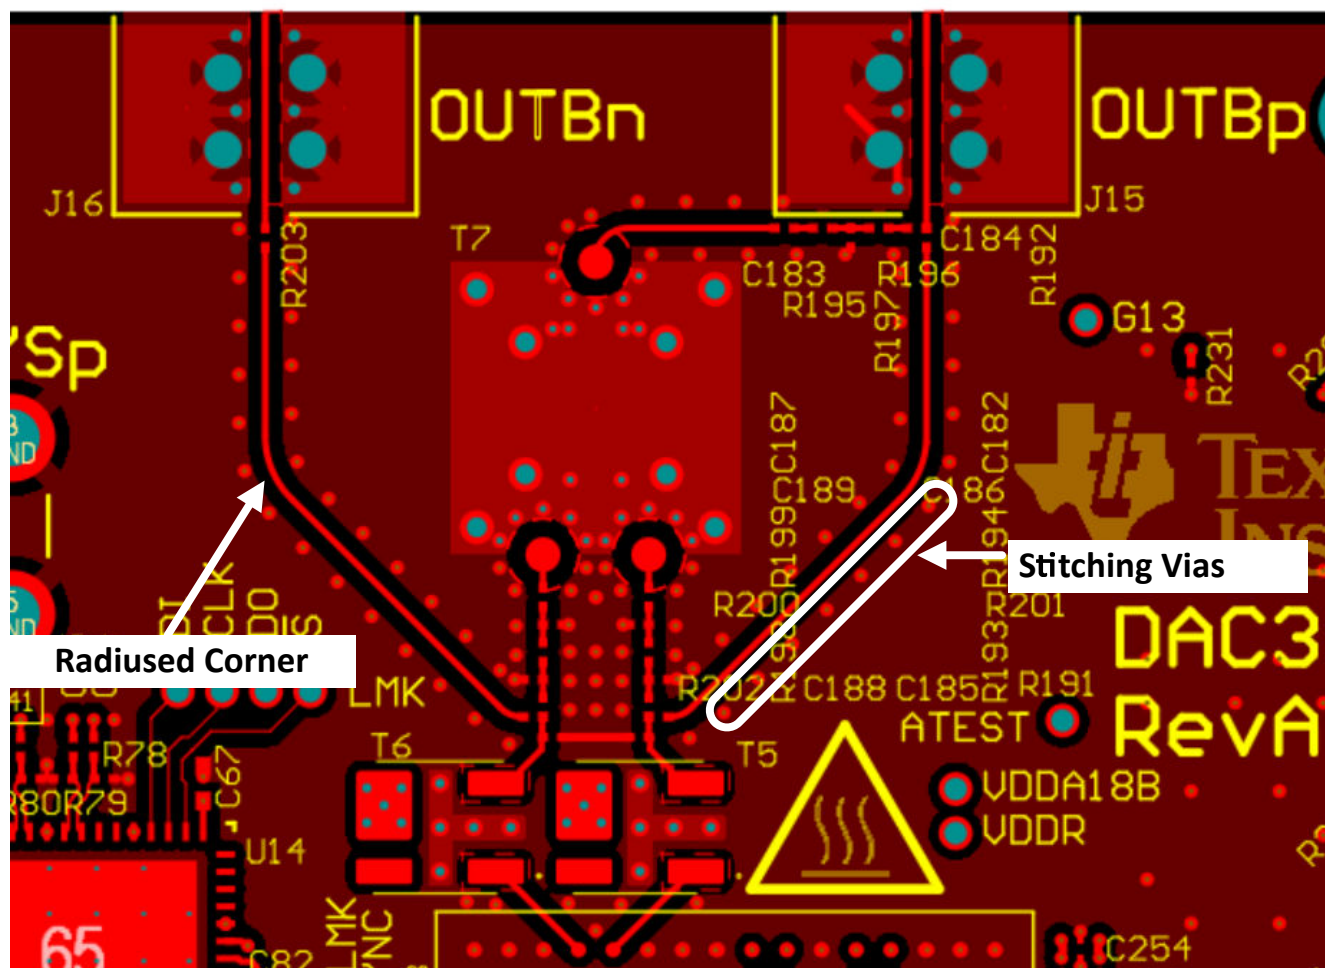

Figure 9-22. Radius Corner and Stitch Vias Next to High_Speed Signal Trace
4. Use smoothly radiused corners and avoid 45- or 90-degree bends to reduce impedance mismatches on all high-speed inputs/outputs for both analog and digital signal traces. See Figure 9-22 as an example.